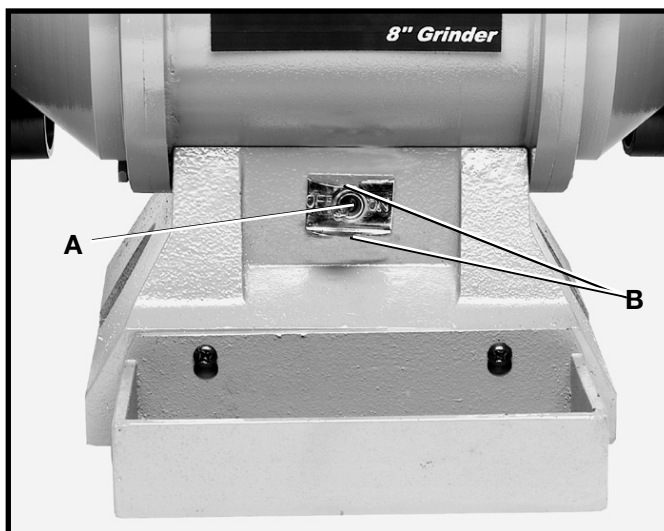

Fig. 18
1. The on/off switch (A) Fig. 18 is located on the front of the grinder. To turn the machine “ON”, move the switch up to the “ON” position.
2. To turn the machine “OFF”, move the switch (A) down to the “OFF” position.
IMPORTANT: When the machine is not in use, the switch should be locked in the “OFF” position to prevent unauthorized use, using a padlock with a 3/16" diameter shackle inserted through the holes at (B) Fig. 18.